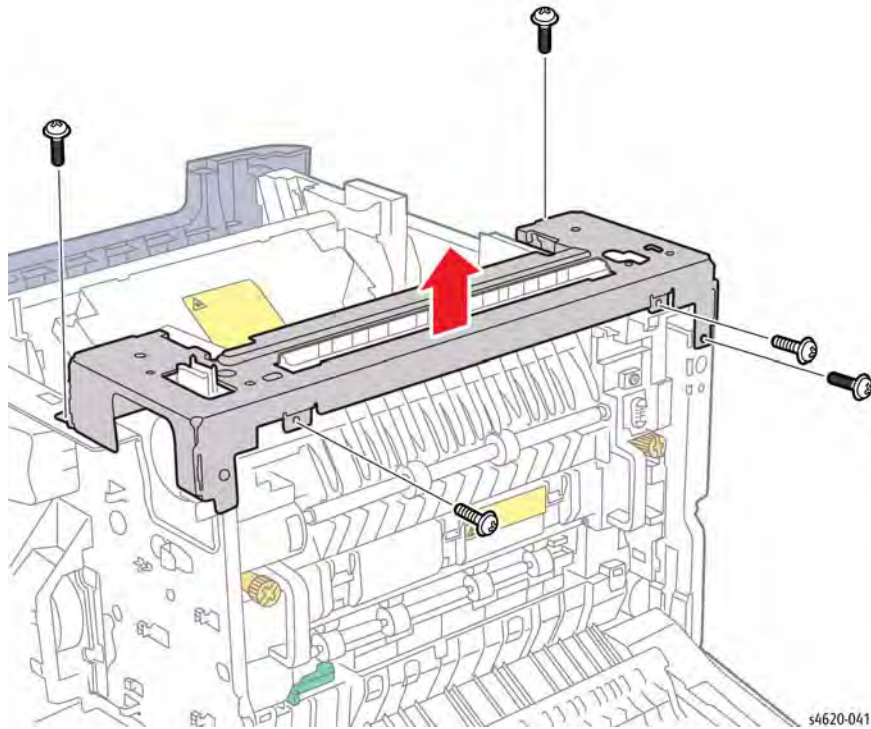

Figure 1 Remove the rear support bracket
10. Lift the bracket and rest on the printer chassis, Figure 1.